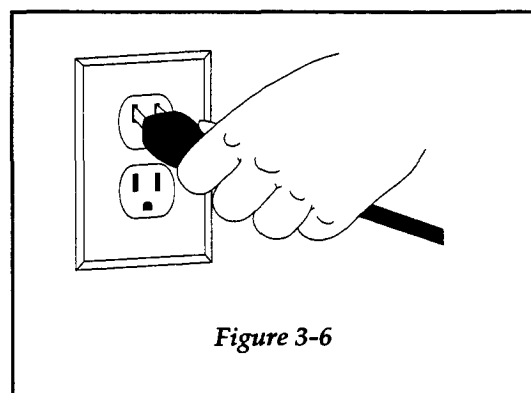

Figure 3-6
**Step 5** Make sure the ON/OFF switch is OFF (0), then plug the electrical cord into a three-prong outlet. Figure 3-6.